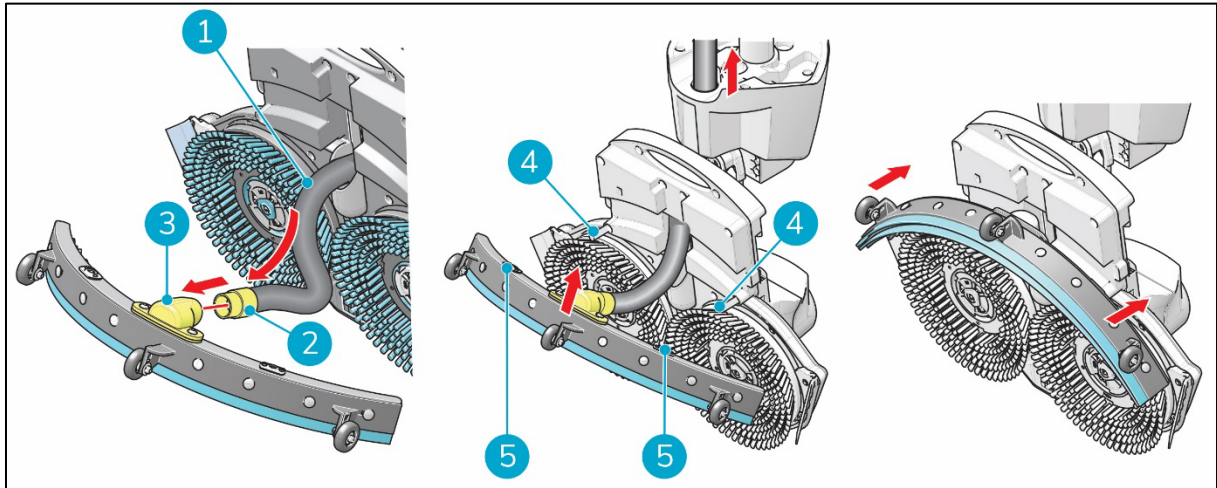

Figure 10
1. Take the vacuum hose (Figure 10, pos. 1).
2. Insert the hose connector (Figure 10, pos. 2) in the squeegee (Figure 10, pos. 3).
3. Twist the hose connector  $\frac{1}{4}$  turn for a firm fit (Figure 10, pos. 2).
6. Align the pins on the scrub deck (Figure 10, pos. 4) with the holes on the squeegee (Figure 10, pos. 5).